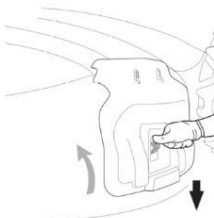

Fig. 8D
6.2.2. Push the safety lever slightly and open the side discharge guard, Insert the side discharge chute; Fig. 8D/E/F